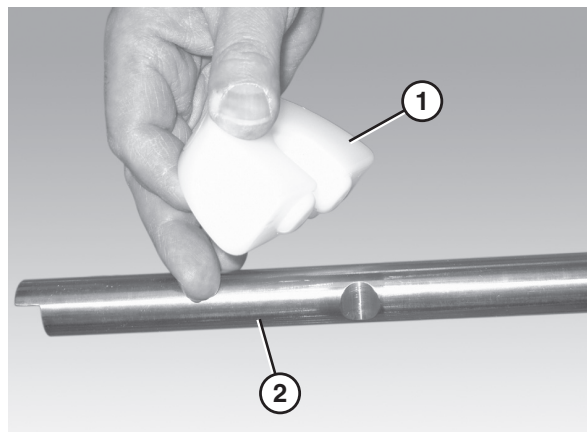

Figure 35
1. Attach the chain return shoes (**Figure 35, item 1**) to the return shaft (**Figure 35, item 2**).